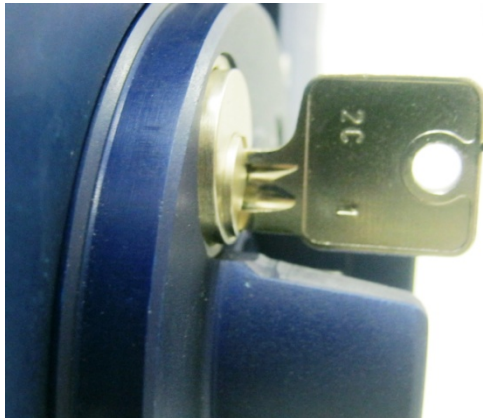

Figure 15
- Check that the Corbin Lock is completely locked. If the Lock is not completely unlocked only approximately 2mm of the lock will protrude from the body (Fig. 15).